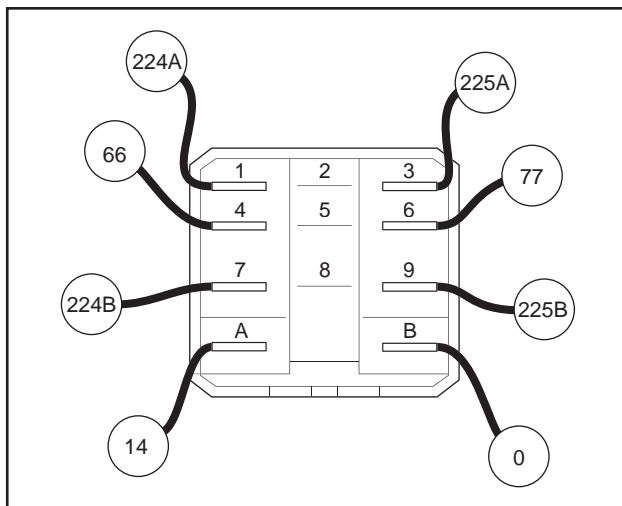

Figure 44. Battery Charge Relay Test Points
- Verify that the battery charge relay (BCR) is wired correctly (Figure 44).
- See Figure 44. Disconnect all wires from the battery charge relay, to prevent interaction.